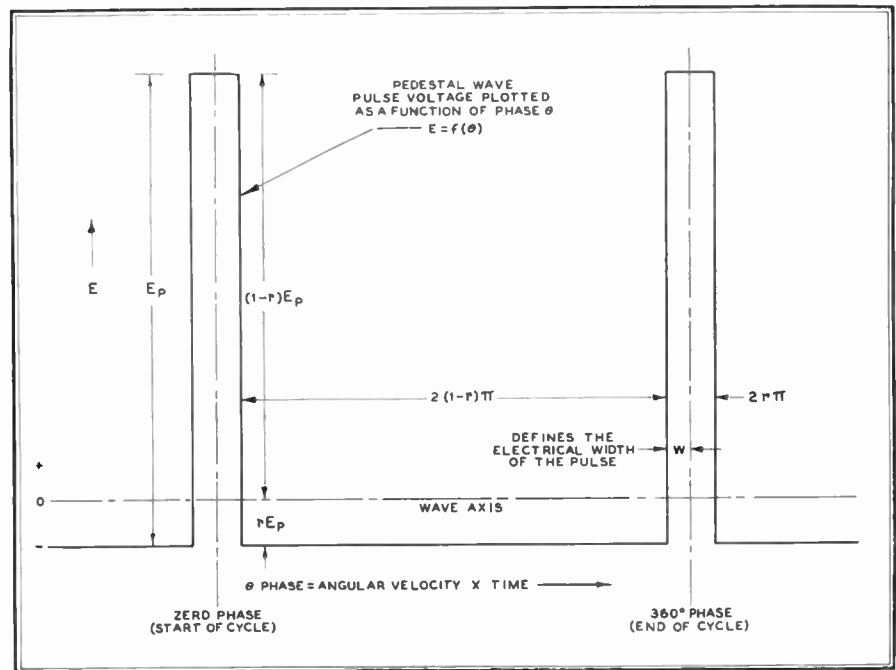
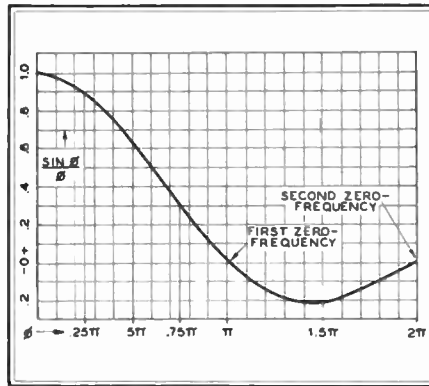
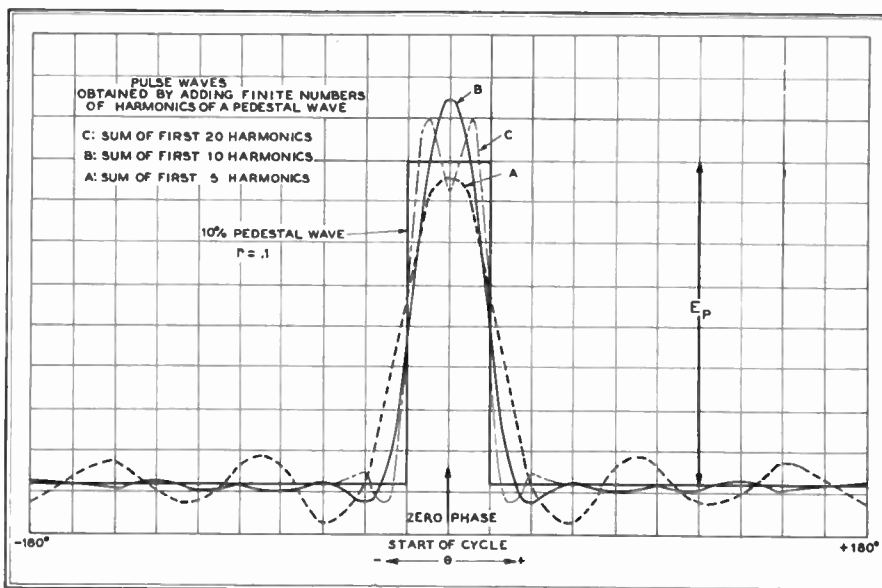
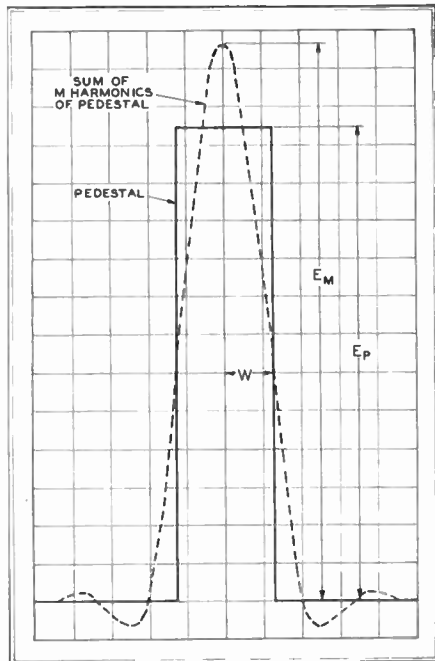

FIG. 8. SQUARE ELECTRICAL PULSE, OR PEDESTAL, HAS THE DISTINGUISHING CHARACTERISTICS OF AMPLITUDE, DURATION, AND FREQUENCY OF REPETITION
FIG. 9. RELATIVE AMPLITUDE OF HARMONIC COMPONENTS OF PEDESTAL
FIG. 10. PULSE WAVES OBTAINED BY ADDING FINITE NUMBERS OF HARMONICS OF A PEDESTAL WAVE
FIG. 11. SUM OF M HARMONICS OF A PEDESTAL, UP TO FIRST ZERO FREQUENCY
A square electrical pulse, Fig. 8, is referred to sometimes as a pedestal. Pedestals have three distinguishing characteristics: amplitude, duration, and frequency of repetition. The latter two of these characteristics contribute to the frequency spectrum, which depends solely upon the ratio of the duration of the pulse to the period of the image projection. The frequency spectrum can be computed quite easily by means of a Fourier analysis of a narrow, finite pulse, created electrically at the transmitter by the scanning of a single illuminated point in the image. This analysis shows that the pulse can be considered as a series of harmonics of the frame projection-frequency, with relative amplitudes as indicated in equation (1.0), and plotted in Fig. 9.
7. *Reconstruction of a Pulse from its Harmonics:* A reference to Fig. 9 will show the relative amplitudes of the harmonic components composing a field pedestal of this width, as expressed by the relative values of $\sin \phi / \phi$. There are 15 additive (or plus-valued) harmonic components which compose this pedestal wave up to the first, zero frequency which occurs at $\phi = \pi$, at which frequency the harmonic amplitude passes through zero. There are only fifteen, because $15 \times 0.065\pi = 0.975\pi$, while $16 \times 0.065\pi = 1.04\pi$. Thus, the 15th harmonic is the last plus-valued harmonic, and the 16th harmonic is negative and will subtract from the peak value of the pulse. An approximate peak value of the pulse can be obtained by adding up the first 15 positive harmonics at the start of the cycle, where the peak occurs. The relative values of the first 15 harmonic amplitudes can be found from Fig. 9, by assigning values to m from 1 to 15 (corresponding values of ϕ are from 0.065π to 0.975π , as computed from equation (1.3)), and by reading the values of $\sin \phi / \phi$ from the curve, for these values of m . These values are:
where E_p is the peak-to-peak amplitude of the rectangular pulse, or pedestal wave, shown in Figs. 8 and 10, and the \sum sign signifies that values of $\frac{\sin \phi}{\phi}$ as taken from the curve of Fig. 9, for each value of $\phi = mw$, are all added together for values of m from 1 to M .
pedestal, that of duration is of primary importance in television analysis. Duration is very closely related to electrical width, as shown in Fig. 8. Electrical width refers to one-half of the portion of the cycle (in electrical degrees or radians, there being 360° or 2π radians in a complete cycle) for which the pulse peak endures. According to the definition of the symbol r given in the second paragraph above, this value is $r \times \pi$ in radians (π radians in a half-cycle). Expressed as an
In Fig. 10 there is plotted one cycle of a pedestal wave similar to that shown in Fig. 8, but for a finite value of r , chosen to simplify calculations: that is, for $r = 0.1$, which defines a pedestal whose width is 10% of the cycle ($w = 18^\circ$, or $w = \pi/10$ radians). Plotted in Fig. 10, also, are waves A, B, and C which would be obtained in simulation of the pedestal wave if only 5 harmonics, 10 harmonics, or 20 harmonics were used to simulate the infinite number of harmonics required to produce the pure, rectangular pedestal.
By means of methods beyond the scope of this discussion, it can be proved that a pedestal wave having a value of r smaller than 10% can be simulated by adding up the harmonics to the first zero-frequency, and that the simulated pulse obtained in this manner will be substantially the same as shown for curve B in Fig. 10. What this means, actually, is that any pedestal-type of impulse wave which has a very short duration can be simulated accurately enough for most practical purposes by M harmonics, where $M = 1/r$. The number of necessary harmonics is proportional to the inverse of the pulse width. In Fig. 11 there is shown a graph of a pedestal wave having a narrow width w . There is shown also the pulse wave which would be obtained by adding all the harmonic components of this pedestal to a value $M = 1/r = \pi/w$. The graph of Fig. 11 is universal. That is, it holds approximately for all pedestals of short duration and of narrow width, whether the value of w is .1 of a radian or .000001 of a radian.
The practical implications of this fact are as follows: if a periodic electrical wave having the form of a short, rectangular pulse (or pedestal) of width w is applied to an electrical network with a finite frequency band (of band-width Mf , where $M = \pi/w$ and f is the frequency of repetition of the pulse), then the output pulse will have the shape shown in curve B of Fig. 11, relative to the shape of the original pedestal wave shown in curve A. This fact is very useful in estimating the performance of an electrical system in regard to its transmission of rectangular pulses, and is also useful in the computation of the frequency band necessary in a television
It can be shown, also, that if higher numbers of harmonics than those existing up to the first zero-frequency (for example, if the harmonics up to the second zero-frequency were plotted) then the shape of the reproduced pulse would be universal for all narrow widths of pedestals, and would be of the form shown in curve C of Fig. 10. Each time the frequency band of the electrical system is extended by a multiple of the first zero-frequency,
a new peak is added to the simulated reproduction of the rectangular pulse peak. That is, if harmonics of the pedestal up to the fifth zero-frequency were plotted, the peak of the pedestal would have five oscillations on top of it, similar to the two oscillations shown in curve C of Fig. 10, which was plotted for harmonics up to the second zero-frequency.
It is sufficient here to consider harmonics only up to the first zero-frequency. In this case the distortion of the reproduction of a rectangular pedestal is approximately as shown in Fig. 10, where there is a positive overshoot in the peak direction having a magnitude of approximately 17% as shown by a comparison of curves A and B, and there is also a nega-
tive overshoot of approximately 6%, as shown. The actual width of the reproduced pulse, however, is almost identical to the width of the original pedestal. For mathematical reasons, also beyond the scope of this article, the effective, or average, width of a pulse is taken to be represented by the area of the pulse divided by its amplitude. A reference to Fig. 11 will show that the areas of the pulses of curves A and B, divided by their peak amplitudes, are approximately the same and are equal to one another, so that the values of w are the same for each.
of observation by the human eye, as shown in Fig. 11. It is, therefore, sufficient for the perfect transmission of the detail necessary to produce a television image constructed of N lines per frame and at a rate
change from black-to-white as sharply as indicated by the pulse waveforms of Fig. 11; any form of change will be perceived as a difference of shading between adjacent picture elements and can be distinguished by the eye. This is true even though absolute black and absolute white are not obtained in the reproduced image relative to that in the original image being transmitted.
It can be shown that the effect of any aperture upon the peak value of the signal entering it, or upon the harmonic content of the electrical pulse derived from the aperture as it crosses a luminous point, is mathematically the same³ as the effect of finite, electrical width on the harmonic content of a narrow electrical pulse, as shown in Fig. 11. This means that another factor of the same form as that of $\sin \phi/\phi$ is introduced into the equation (1.4) each time an aperture is introduced into the transmission system. This factor modifies the peak value of a rectangular pulse, and